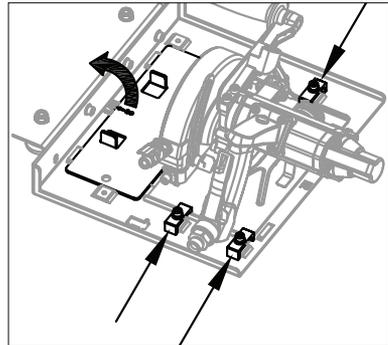

Figure 3
3. Secure the Stone Cutter to the Carriage Base by using three pieces of the Clamping Plate Assembly. (See Figure 3)
4. After the Stone Cutter is completely secured to the Carriage Base, remove Template-S from the Carriage Base. (See Figure 3)